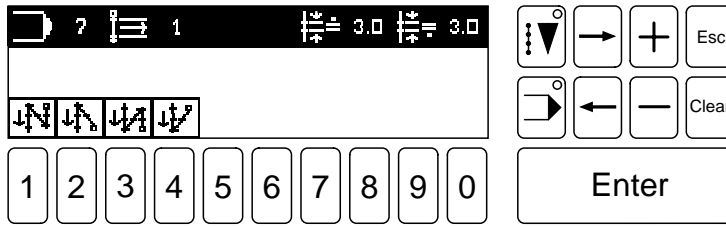

Fig. 11 - 31
- Close the input in the bartack menu with the Enter key (Display Fig. 11 - 31 appears).